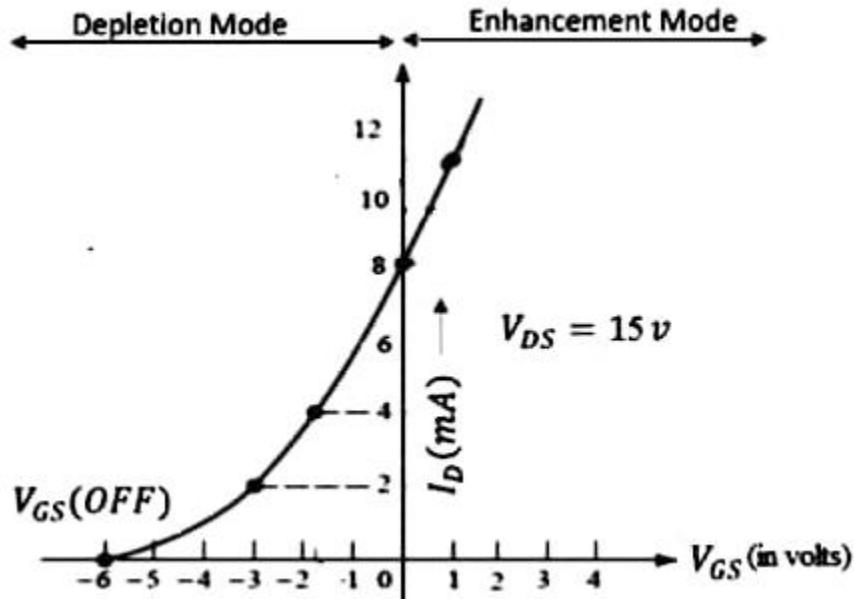

Figure 3.16 Transfer characteristic of DE-MOSFET
3.10.2 Transfer characteristics of depletion type MOSFET: Figure 3.16 shows the transfer or transconductance characteristic curve for the N-channel DE-MOSFET. The transfer characteristics give the variations of the drain current I_D with the gate to source voltage V_{GS} for a fixed value of V_{DS} .